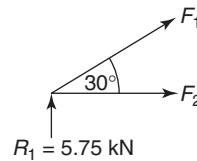

Figure 4.35
**Consider joint (1);** see Figure 4.35.